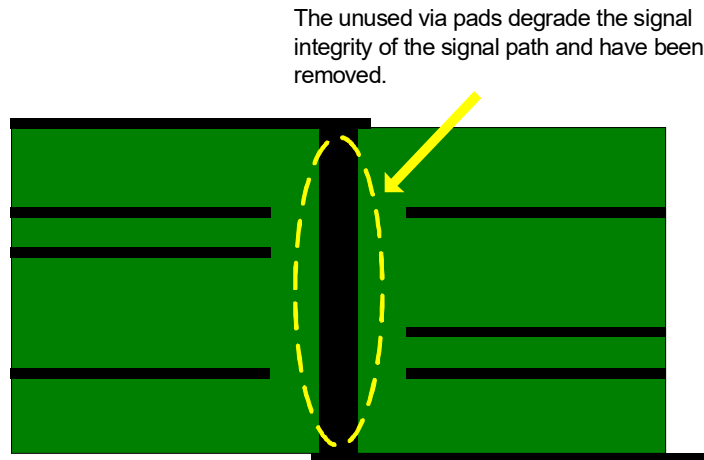

**Figure 13-19. Return Path Vias for Differential Signals - Optimal Example**
- Each time differential traces make a layer transition (pass through a pair of signal vias), there must be at least one ground via located near each signal via. Two ground vias near each signal via is better. See Figure 13-18 and Figure 13-19.